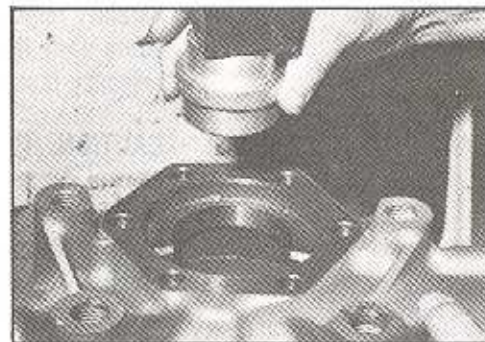

Figure 89
41. Press out bearing (40) and retaining ring (50) from housing (47) only if the bearing is to be replaced. Place suitable bearing mandrel against the side cover end of bearing and press bearing out of the trunnion end of bearing bore. Remove retaining ring from bearing and discard bearing. SEE FIGURE 89.